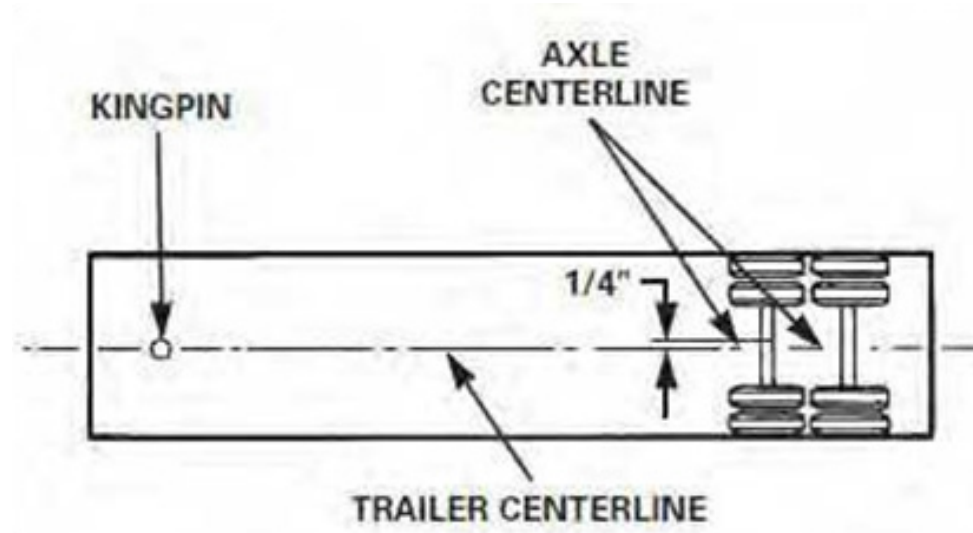

Fig. 14
- An axle that is installed with its centreline located more than 0.25-inch (6.3 mm) from the trailer centreline. See **Fig. 14**.